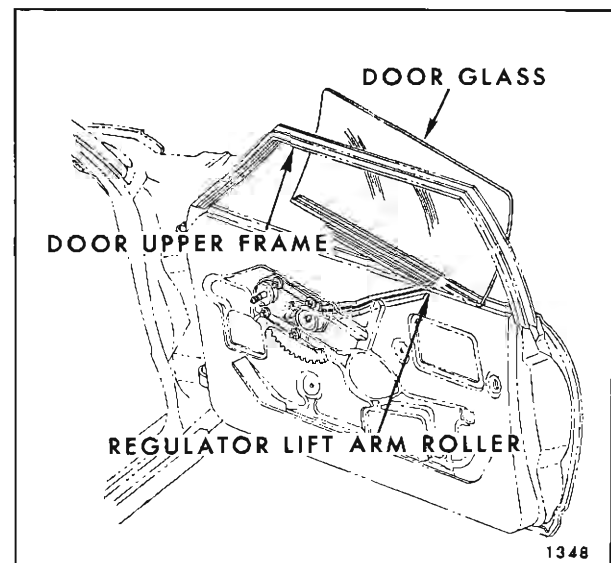

Fig. 2D29—Front Door Window Removal
3. Remove glass run channel lower rear retainer and front door ventilator assembly (See Figs. 2D27 and 2D28).